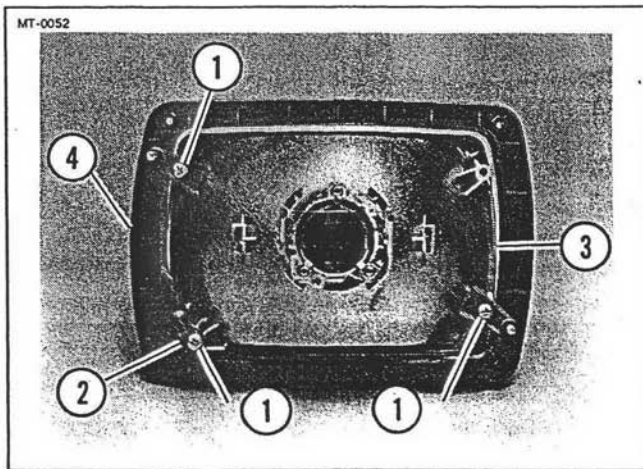

Figure 5-19. Headlamp Unit and Surround
2. See Figure 5-19. Remove screws (1), retainer (2), and headlamp unit (3) from surround (4).